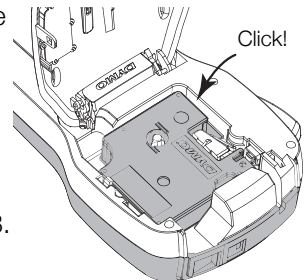

Figure 4
- 4 Press firmly until cassette clicks into place. See Figure 4.